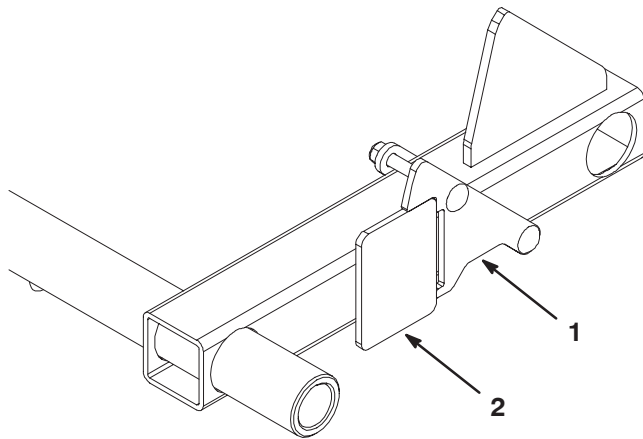

Figure 4
- 13.** Slide the extension plate assembly against the H-frame target (Fig. 4). Make sure the extension plate and target mounting surfaces (except welded edge) are flush and then tighten the nuts. Torque the nuts to 8–12 ft-lbs.